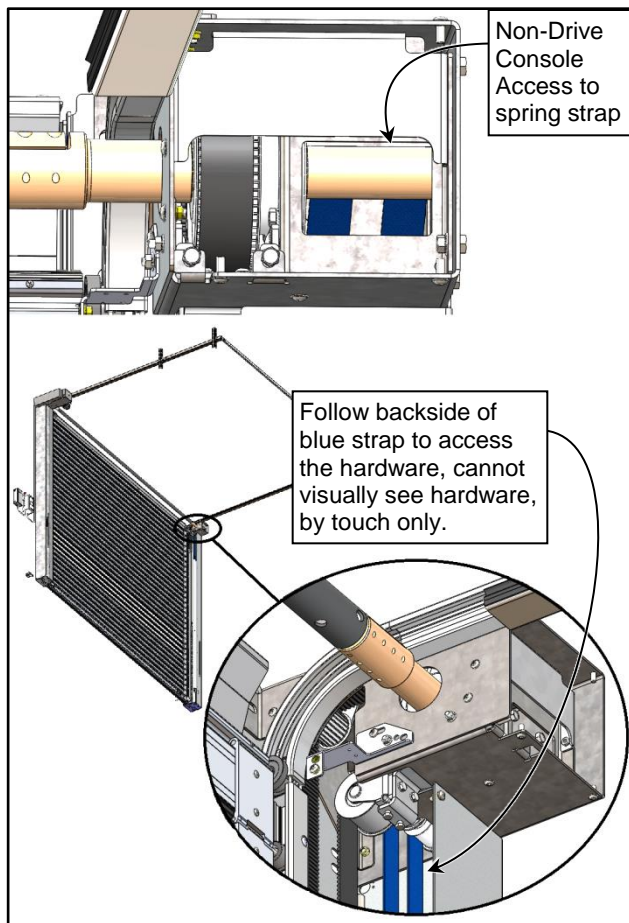

Figure 78
8. Then remove the steel plate and all associated hardware used to clamp the strap to the shaft. Save all hardware. (See Figure 78)